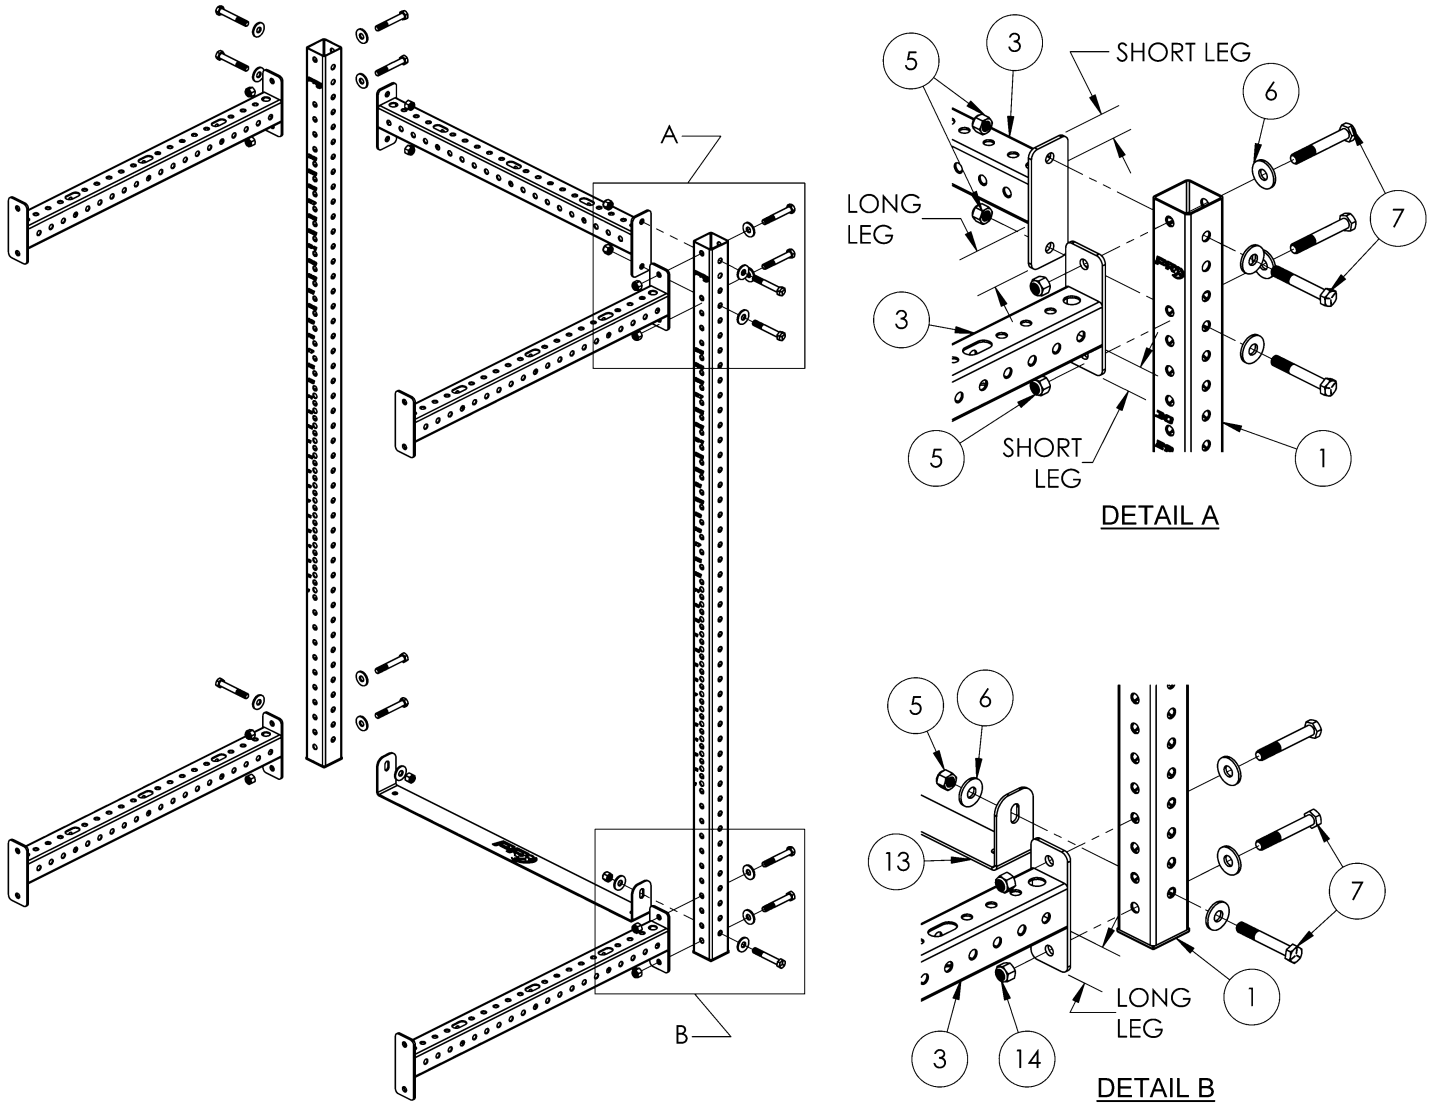

Figure 1
1. Attach Crossmembers (3) to the top of the rear Uprights (1) with the hardware shown. **Figure 1,**
*NOTE 1: Numbers and PRx Logo shown facing the front of the rack. Customers can choose to rotate the uprights 180 degrees, so they are facing the rear of the rack. **Figure 1, Detail A***
*NOTE 2: Side Crossmembers at the top of the Uprights (1) should be oriented with the long leg of the end plates facing upward and the short leg facing down. This will be the opposite for the top/rear Crossmember (3) at the back of the rack. This is to account for the offset holes in the uprights and keep the tubes of the crossmembers at the same height. **Figure 1, Detail A***
2. Attach Crossmembers (3) to the front/bottom of the Uprights (1) with hardware shown.
*NOTE: The Bottom Crossmembers are oriented opposite the top, with the long leg of the end plates facing downward and the short leg facing upward. **Figure 1, Detail B***
3. Attach the Floor Spreader Plate (13) between the bottoms of the Uprights (1) with hardware shown. **Figure 1, Detail B**